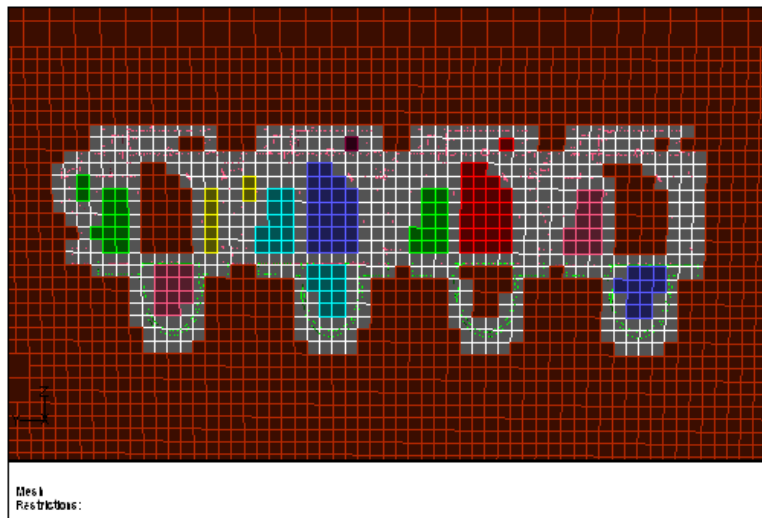

Figure 7.13: Region of the Leak
- iii. Zoom in to the region of the leak (Figure 7.13).